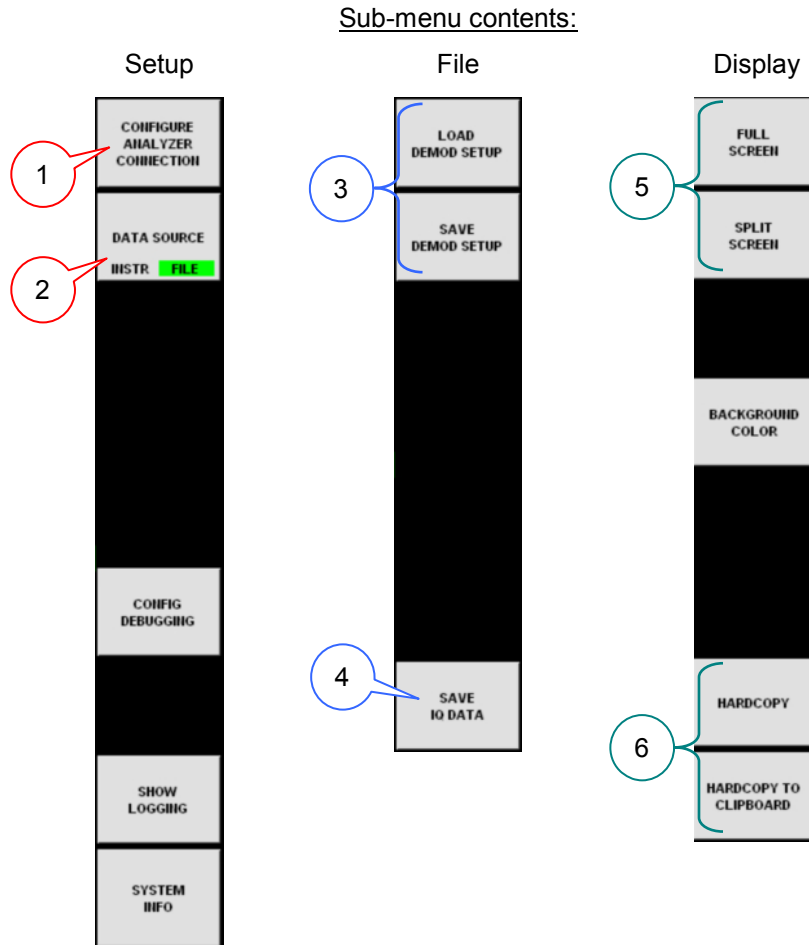

Figure 3-2 FSQ-K100/K101 – Sub-menu contents
- A. Yellow box: Sub-menu content (shown in Figure 3-2)